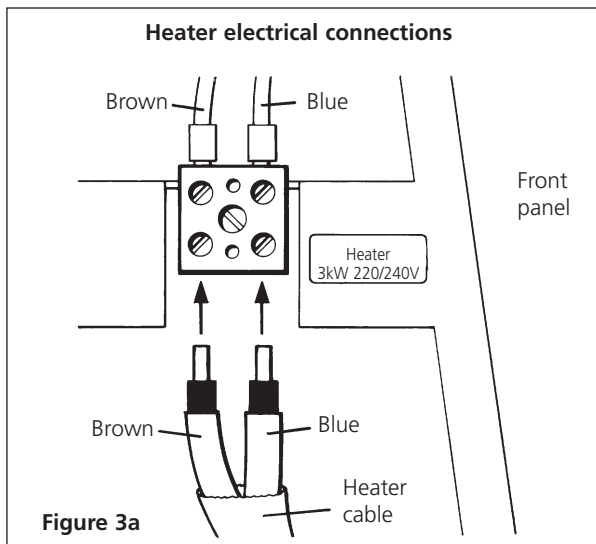

Figure 3a
6. Connect the heater cable as shown in **figure 3a**.
Cable connections are shown in **figures 3a** and **3b**. Connect to the line supply noting that the wires in the instrument lead are coloured in accordance with the following code: